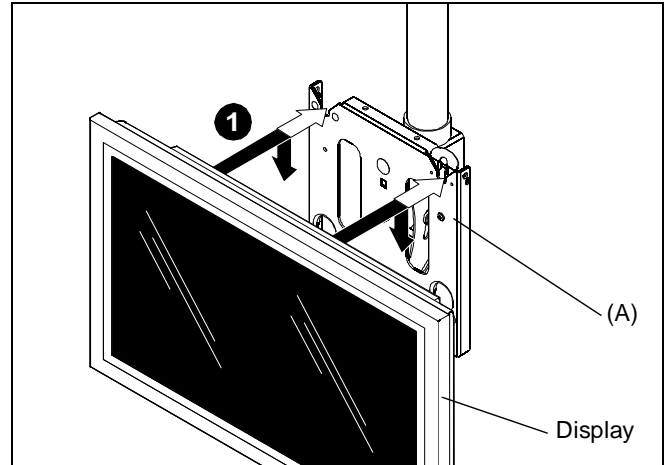

Figure 2
1. While supporting both sides of display, align four mounting buttons on display or interface bracket with four mounting holes in MCS. (See Figures 2, 3 and 4)
2. Lower display into place listening for audible "click" to ensure recessed area of mounting buttons are properly seated in lower area of mounting holes. (See Fig. 2, 3 and 4)